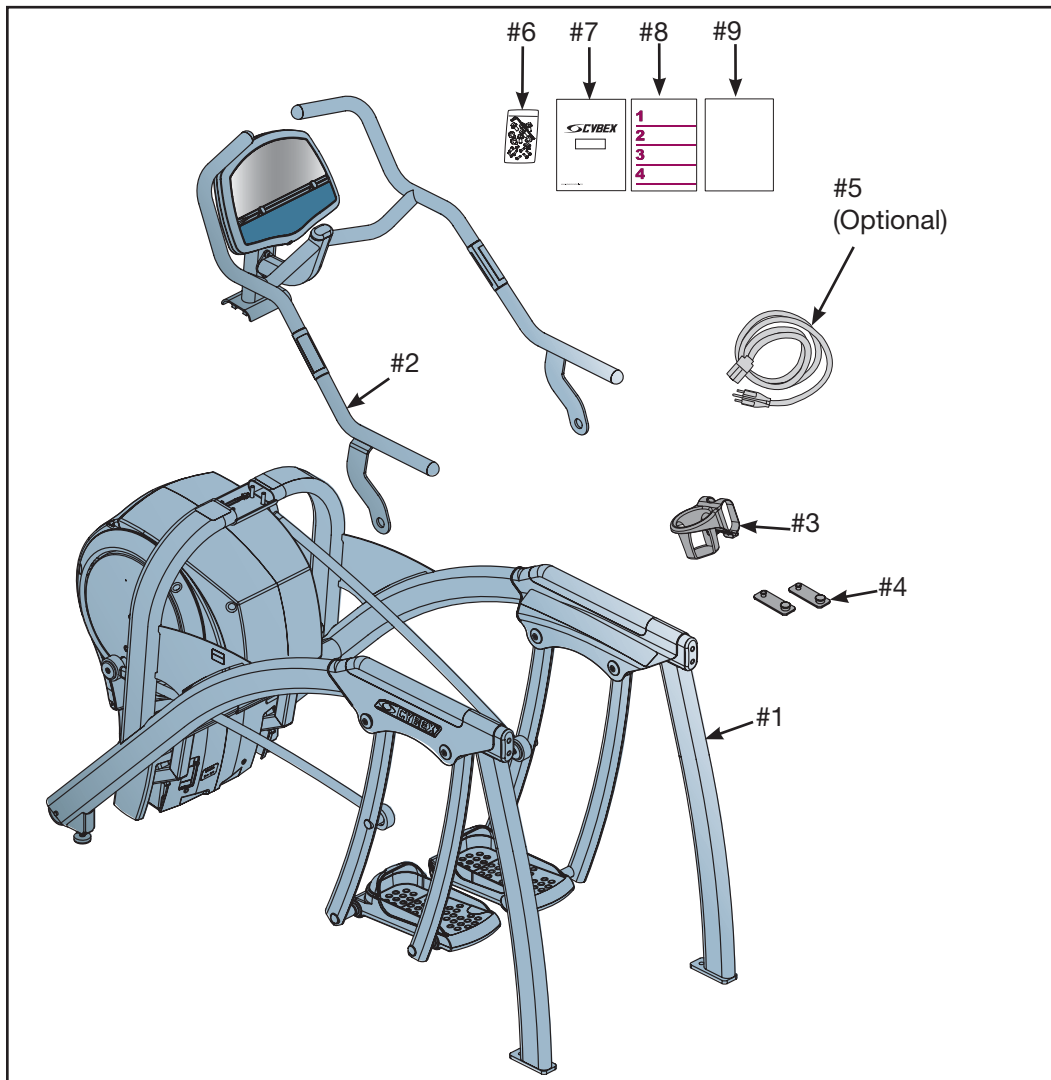

Figure 1
D. Check to be sure that the following items are present. Check off (☑) each item as you find it. See Figure 1. If any of the parts are missing contact Cybox Customer Service.